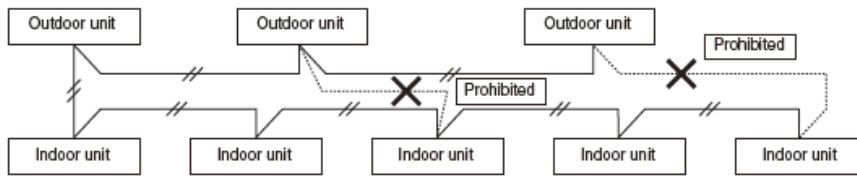

Fig.9-3
- (2) Do not install the inter-unit control wiring in a way that forms a loop.(Fig.9-3)